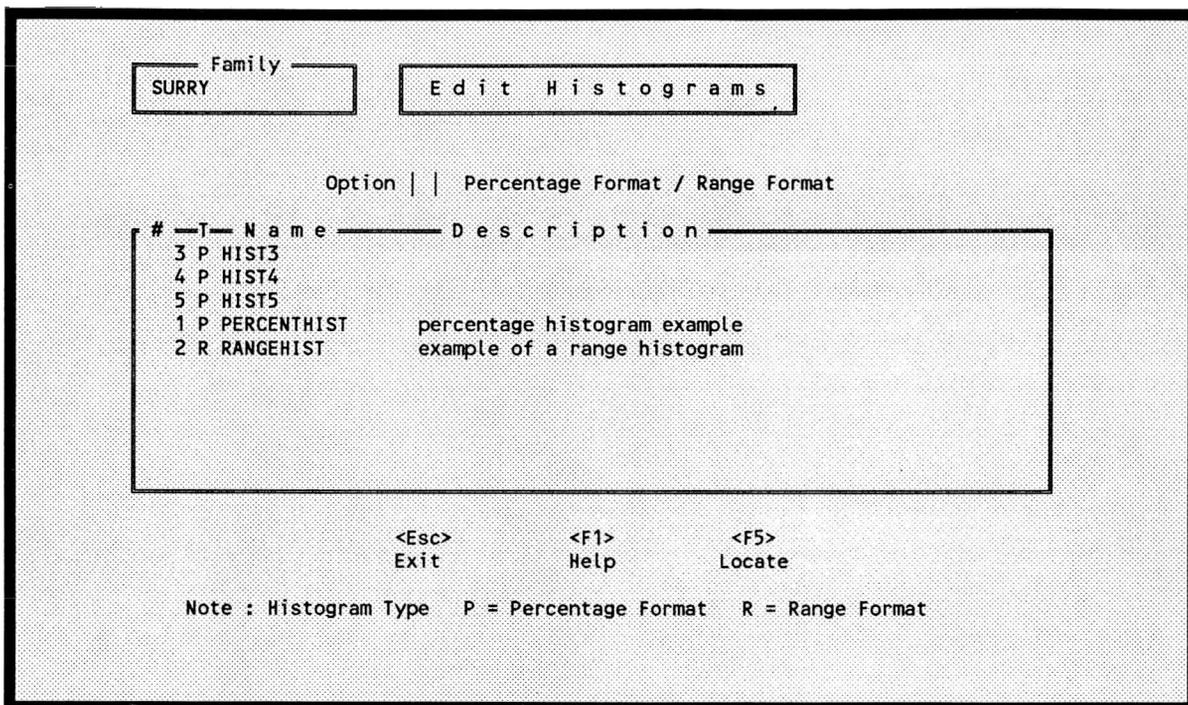

Figure 49. Select percentage or range format for the histogram.
5.2.7.2 Add Histograms. This option allows you to create a user-defined distribution type. To add a new histogram to the data base, type an <A> (Add) in the option field and press <Enter>. At this point, Figure 49 is displayed and you are given the choice of adding the histogram data in either a percentage format or in a range format.